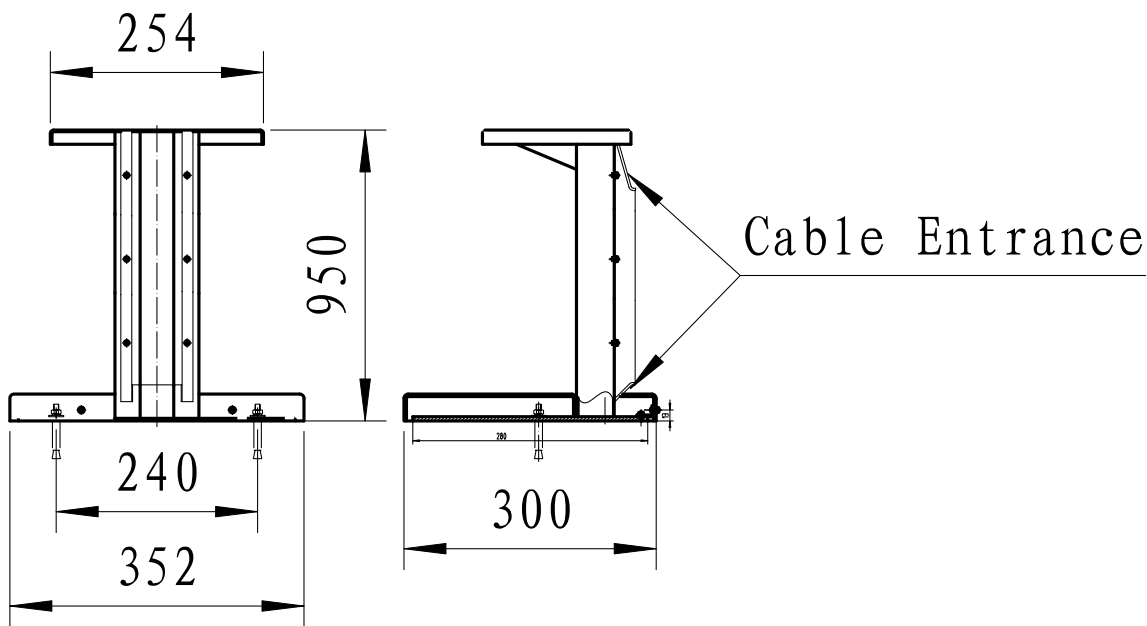

Figure 5-2 Console Dimensions
- Operator Console - Figure 5-2.